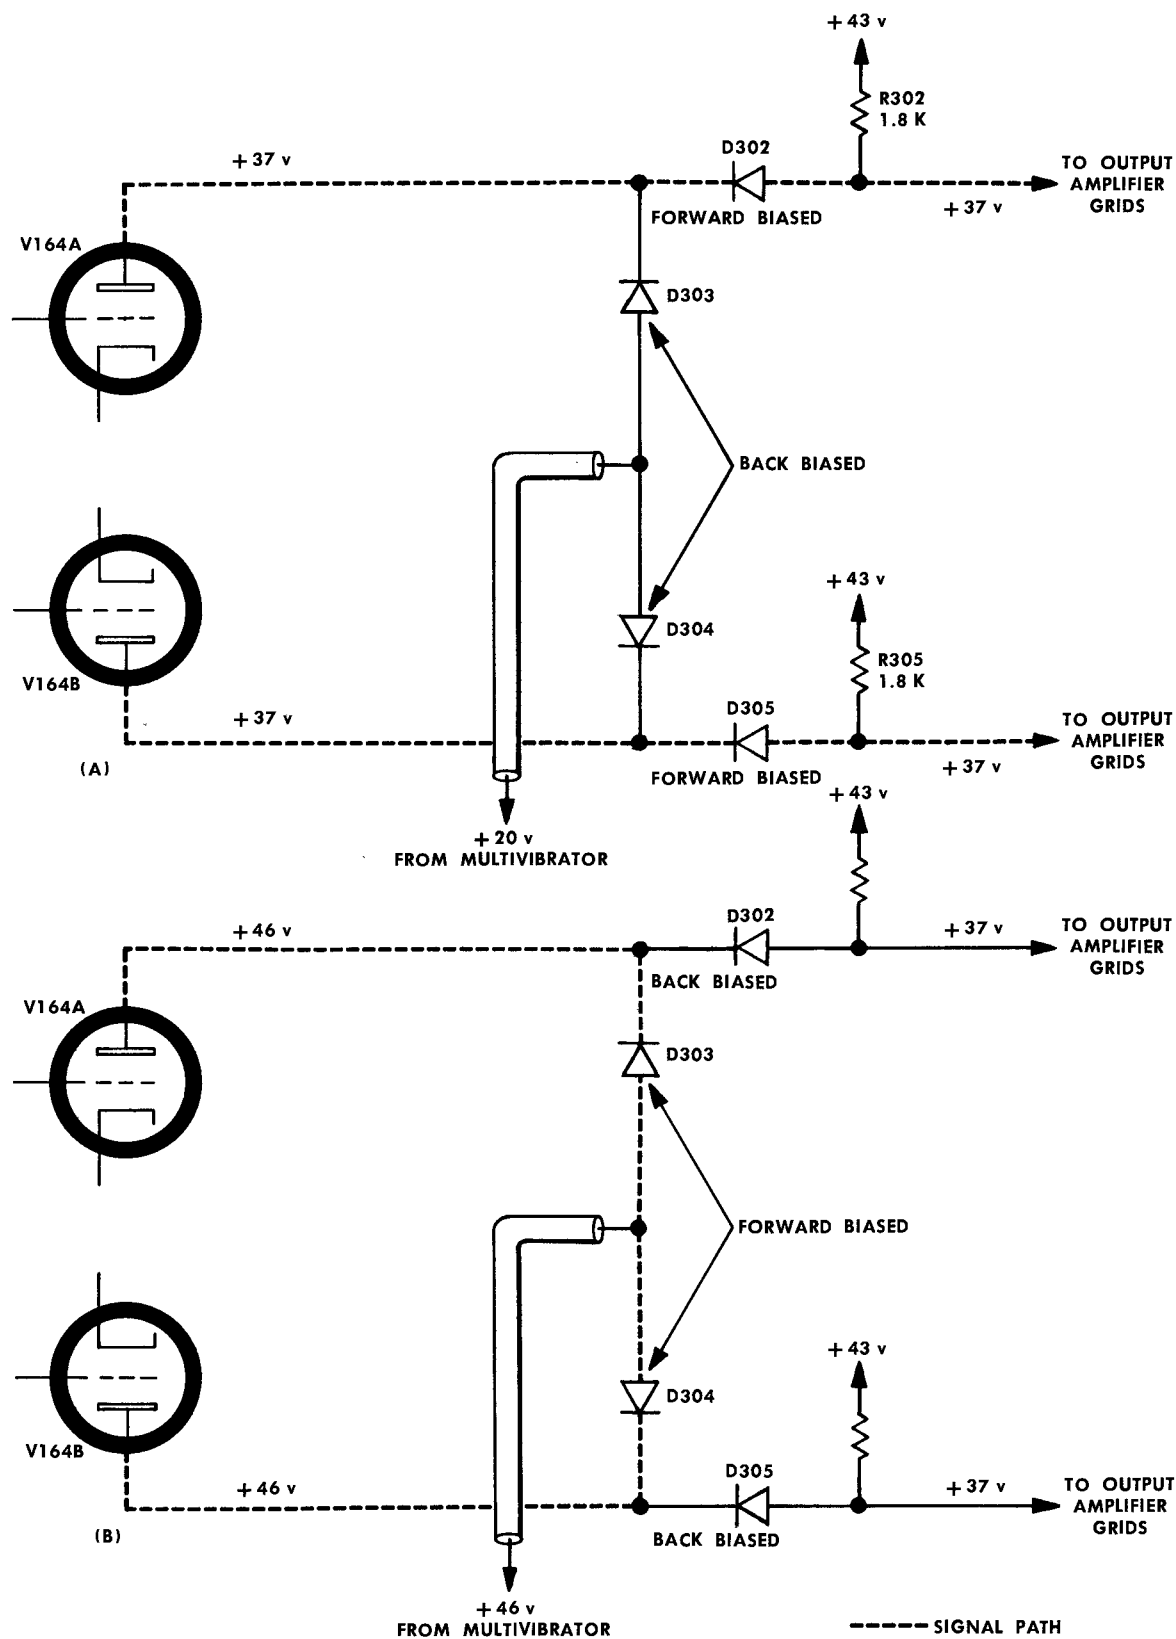

Fig. 4-2. (A) D302 and D305 are forward biased and signal can pass to output amplifier. (B) D302 and D305 are back biased and signal is blocked.
The diode gate is an electronic switch that opens or closes the signal path of each channel to the common output amplifier. Consider the plate voltage source of V164A. See Fig. 4-2 (A) and (B). If D303 and D304 are back biased, the source is from the +43-volt supply through D302 and D305 to the plates of V164. R302 and R305 are plate-load resistors and the signal passes from the plate side of these resistors to the grids of the output amplifier. In Fig. 4-2 (B) the voltage on the anodes of D303 and D304 is raised above +46 volts and both these diodes become forward biased. This effectively shorts the plates of V164A and B together and reduces the stage gain to near zero. The increase in voltage at the plates of V164 back biases